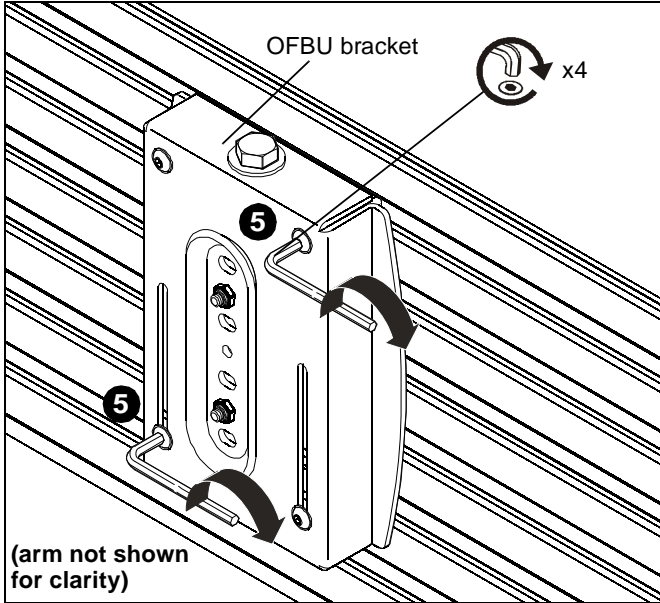

Figure 4
5. Tighten two upper and lower button head cap screws to secure OFBU bracket to wall. (See Figure 4)